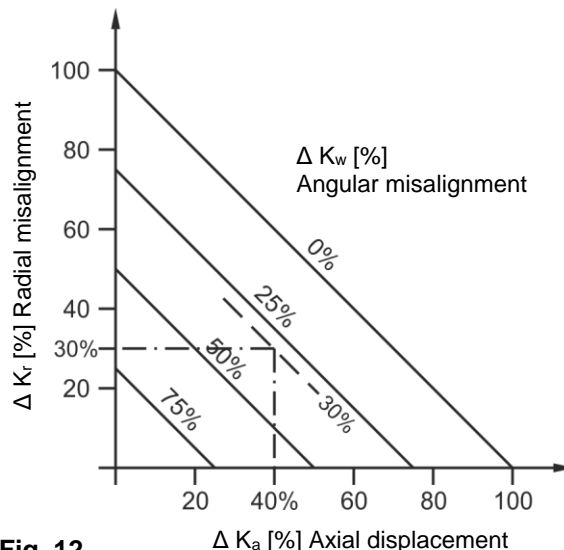
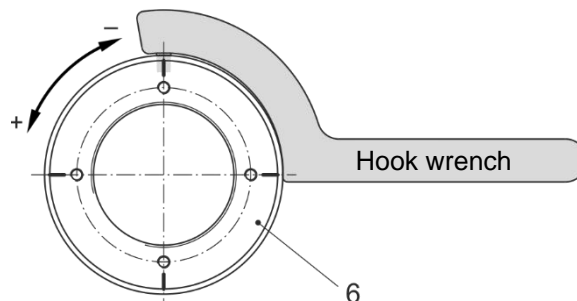
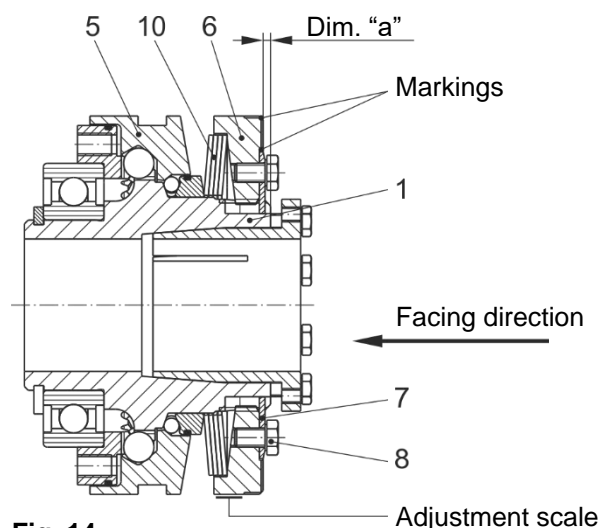
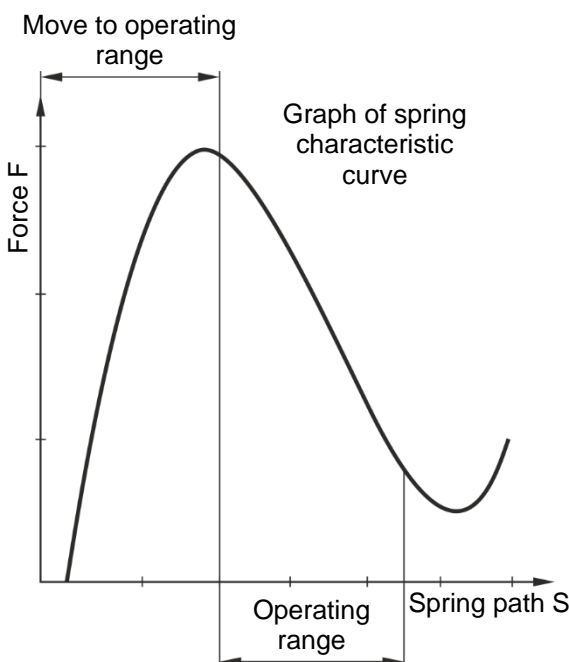

Fig. 12
Fig. 13
Fig. 14
Fig. 15
If more than one kind of misalignment takes place simultaneously, they influence each other. This means that the permitted misalignment values are dependent on one another, see Fig. 12. The sum total of the actual misalignments in percent of the maximum value must not exceed 100 %.
Torque adjustment is carried out by turning the adjusting nut (6). The installed cup springs (10) are operated in the negative range of the characteristic curve (see Fig. 15); this means that a stronger pre-tensioning of the cup spring results in a decrease of the spring force.
It is possible to check the **"Spring operation in the operating range"** (Fig. 15) using the dimension "a" (distance from the adjusting nut (6) facing side to the hub (1) facing side, as shown in Fig. 14).
Turning it anti-clockwise causes an increase in torque. You should be facing the adjusting nut (6) as shown in Fig. 13 and Fig. 14.
- b) Remove both locking screws (hexagon head screws Item 8) from the adjusting nut (6).
- c) Turn the adjusting nut (6) using the adjustment scale on the outer diameter of the adjusting nut (Item 6 / Fig. 14) clockwise or anti-clockwise using a hook wrench until the required torque is reached. The required torque results from the marking overlap on the locking ring (7) as well as on the adjusting nut (6) and the percent value of the adjustment scale on the adjusting nut (6), as shown in Fig. 14.
- d) If necessary, the adjusting nut (6) must be turned slightly, so that both threaded holes for the locking screws (8) align with one of the bores in the locking ring (7).
- e) Paint both locking screws (8) with Loctite 243 and screw them into the adjusting nut (6).
Adjusting the adjusting nut (4) or distorting the cup spring (9) outside of the cup spring characteristic curve (see Fig. 12) stops the clutch functioning.
The inspection dimension "a" (see Table 3) can show deviations due to construction tolerances or to clutch wear. After de-installing the clutch (e.g. due to cup spring replacement or changes to the cup spring layering), the clutch must be re-adjusted and calibrated using dimension "a" (see Table 3 and Fig. 14).
- ☐ Adjust the switch distance for the contactless limit switch acc. Fig. 15. The distance of the thrust washer (5) to the switching point can be adjusted using a hexagon head screw, wrench opening 7.